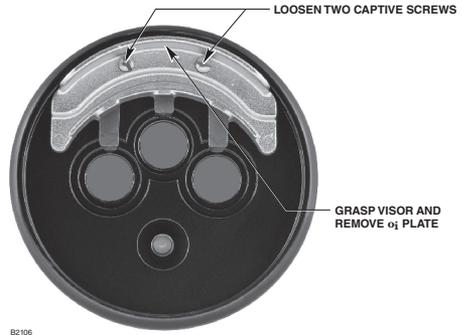

Figure 18—Oi Plate Removal
2. Loosen the two captive screws, then grasp the **oi** plate by the visor and remove it from the detector. See Figure 18.